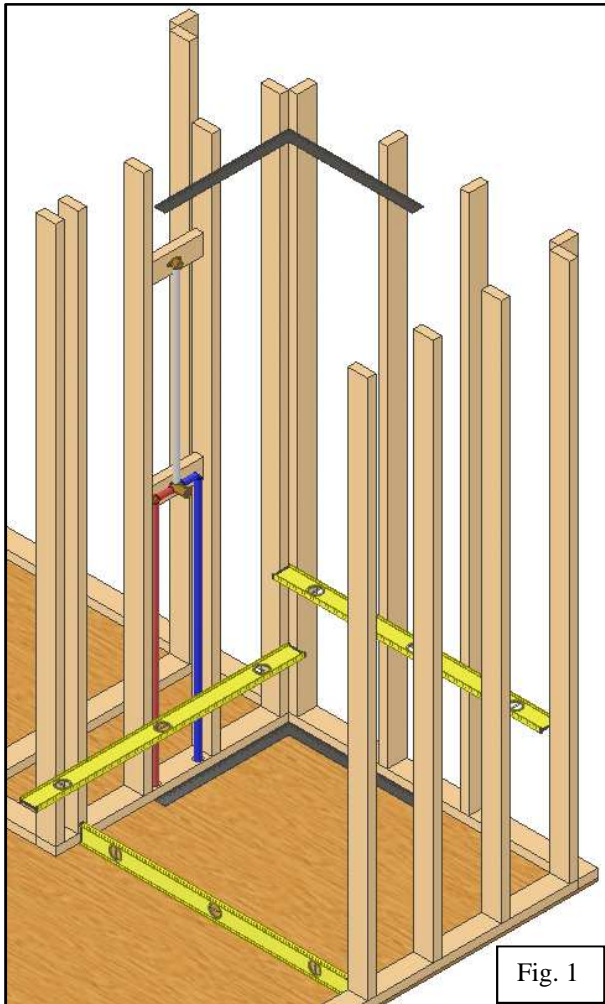

Fig. 1
- 2) Level and square studs and floor. Note that if support legs are on bottom they should not touch the floor when model is installed. They are only there for shipping purposes. Check Spec Sheet for rough-in dimensions. Dry fit shower once this is done to ensure proper fit .(Fig. 1 & 2)